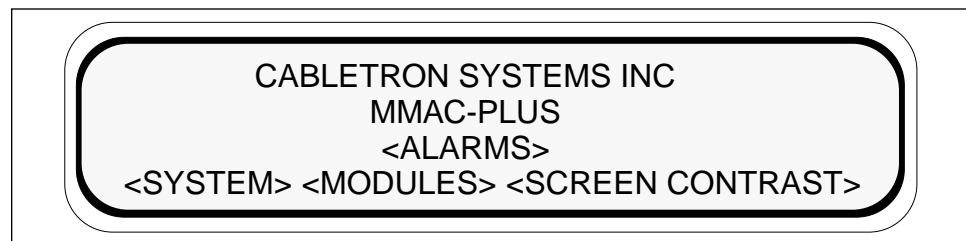

Figure 3-13. The Main Screen
The Main Screen, as shown in Figure 3-13, is the initial screen of the Interactive Mode. It allows access to all of the Interactive Mode screens. Interactive Mode screens are distinguished by the display of option fields. Option fields are designated with brackets (< >). To select an option, highlight the option field by using the arrow function keys to place the cursor on the option; then press the ENTER key.
Select the <ALARMS> option field in line 3 of the Main Screen, as shown in Figure 3-13, to access the alarm message queue. Unread alarms are present in the message queue when the ALARM LED is red.
Select the **<SYSTEM>** option field in line 4 of the Main Screen, as shown in Figure 3-13, to access the System Screen as shown in Figure 3-15. This screen displays information specific to the MMAC-Plus chassis. Lines 1 and 2 display the MMAC-Plus chassis Internet Protocol (IP) address and Media Access Control (MAC) address.
Select **<MODULES>** from the Main Screen, as shown in Figure 3-13, to display the chassis slot locations in which modules have been installed.